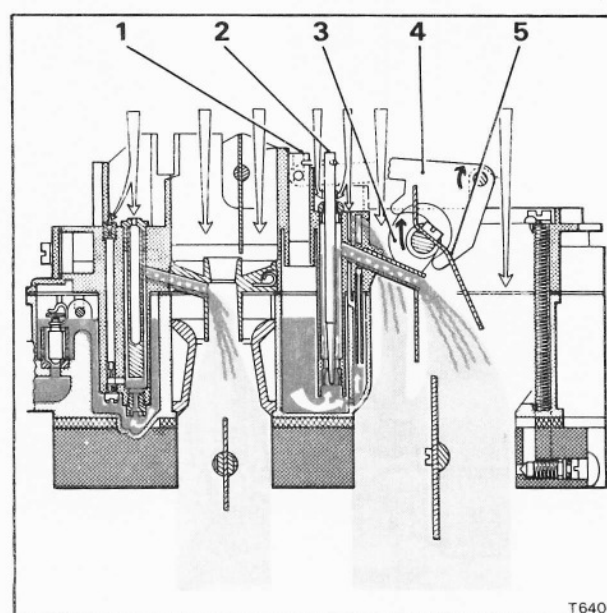

Fig. K56 Secondary stage full operation
Further progressive opening of the secondary stage throttle butterfly increases the depression in the mixing chamber (see Fig. K56) and opens the air flap which through a cam disc (item 3), a lever (item 4) and a guide pin (item 1) controls the height of the needle (item 2) of the main jet. The amount of fuel discharge depends upon the position